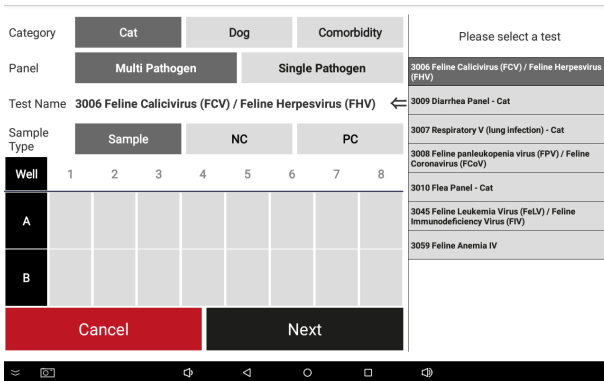

Figure 6.1.2
② Insert PCR tubes into the PCR wells, select category, panel, and test name, as shown in Figure 6.1.2: